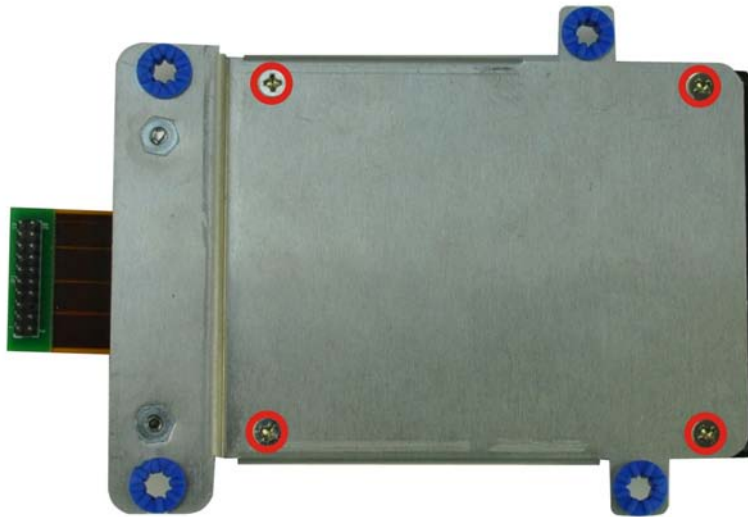

Figure 5-4: HDD Retention Screws
Step 5: Remove the four HDD retention screws (**Figure 5-4**).